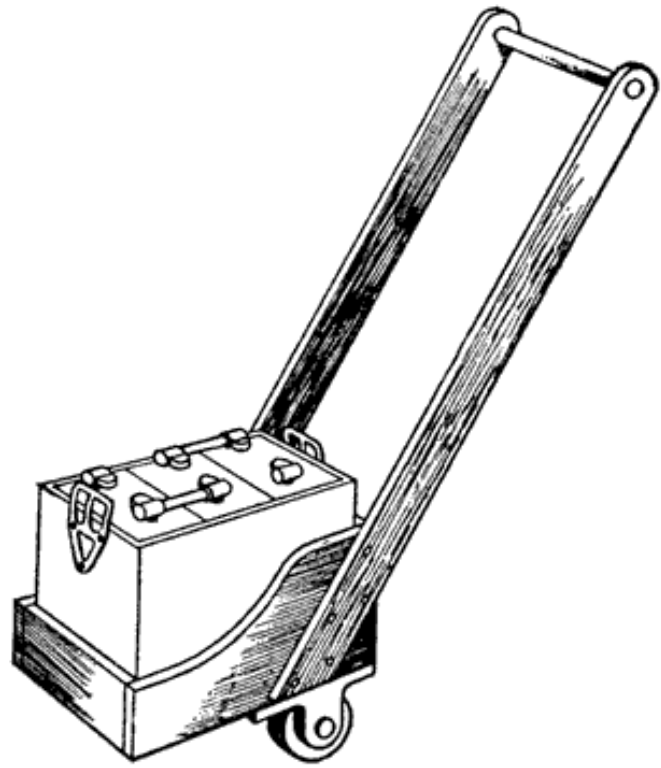

Fig. 117. Battery Truck
**Battery Truck.** When a battery must be moved any considerable distance, a truck, such as that shown in Figure 117 should be used. This truck may easily be made in the shop, or may be made at a reasonable cost in a carpenter shop. The rollers should be four inches or more in diameter and should preferably be of the ball-bearing type. Rubber tires on the rollers are a great advantage, since the rubber protects the rollers from acid and also eliminates the very disagreeable noise which iron wheels make, especially in going over a concrete floor or sidewalk. The repairman need not make his truck exactly like that shown in Figure 117, which is merely shown to give a general idea of how such a truck should be constructed.
The truck shown in Figure 117 was made from a heavy wooden box. With this construction lifting batteries is largely eliminated, which is most desirable, since a battery is not the lightest thing in the world. The battery is carried in a horizontal position and the truck is small enough to be wheeled between cars in the shop.
Another form of battery truck is shown in Figure 118, although this, is not as good as that shown in Figure 117.